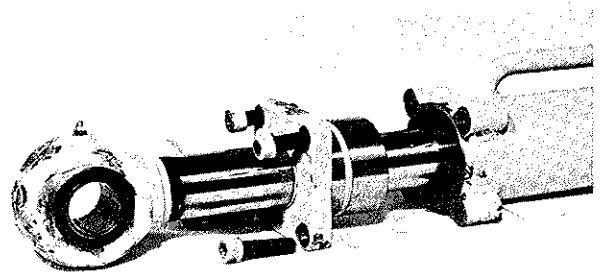

Fig. 24
- (1) Ensure absolute cleanliness of all components.
- (2) Lubricate all parts with clean hydraulic fluid.
- (3) Enter the piston into the cylinder and push fully home (fig. 24).